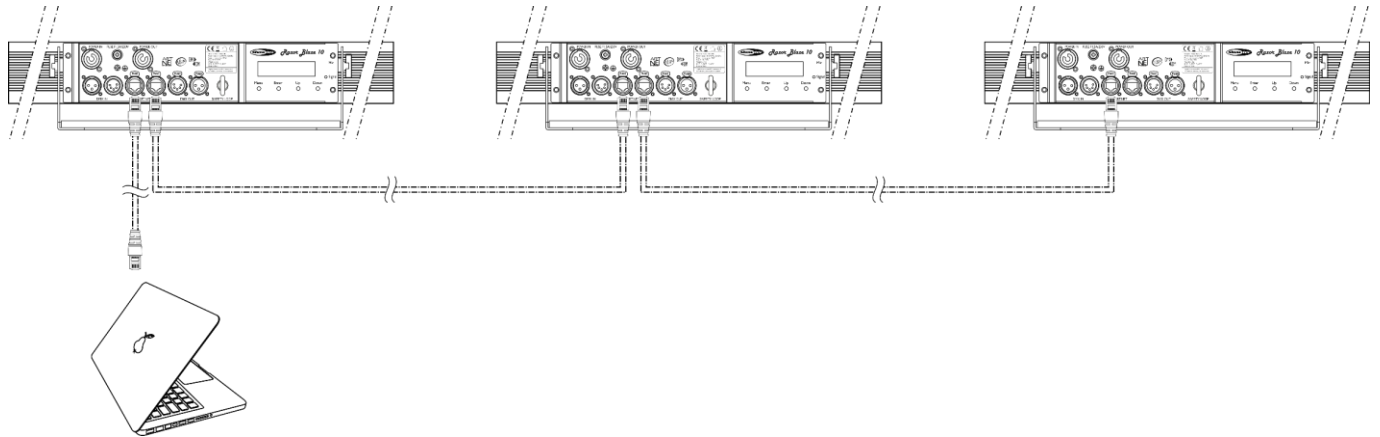

Fig. 06
- 05) Link the units as shown in Fig. 06. Connect the first unit's second RJ45 connector with the second unit's first RJ45 connector, using a CAT-5/CAT-6 cable. Repeat this process to link the rest of the units.